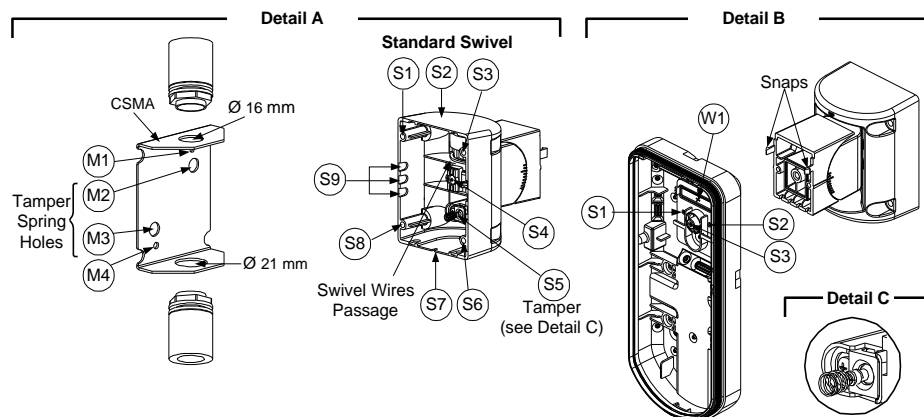

Figure 6
3. Open knockouts on external base (Figure 6, Detail B)
4. On the swivel accessory remove the required swivel cable wiring knockout S2, S7 or S9 (Figure 6, Detail A).
5. Remove back tamper from the internal base (see "Changing Back Tamper Position" paragraph) and connect it to S5 (Figure 6, Detail A) on the Standard Swivel.
- a. Insert external cable wiring through knockouts S2, S7 or S9 and extract them (including the tamper wires) through the Swivel Wires Passage (Figure 6, Detail B).
### Swivel Conduit Mounting (using Conduit Metal Swivel Adaptor – CSMA, Figure 6, Detail A)
- d. Insert external cables and tamper wires from the conduit through the swivel wires passage of the swivel (Figure 6, Detail A).
7. Insert tamper wires and external cable wiring from Standard Swivel through knockout W1 on the external base (Figure 6, Detail B).